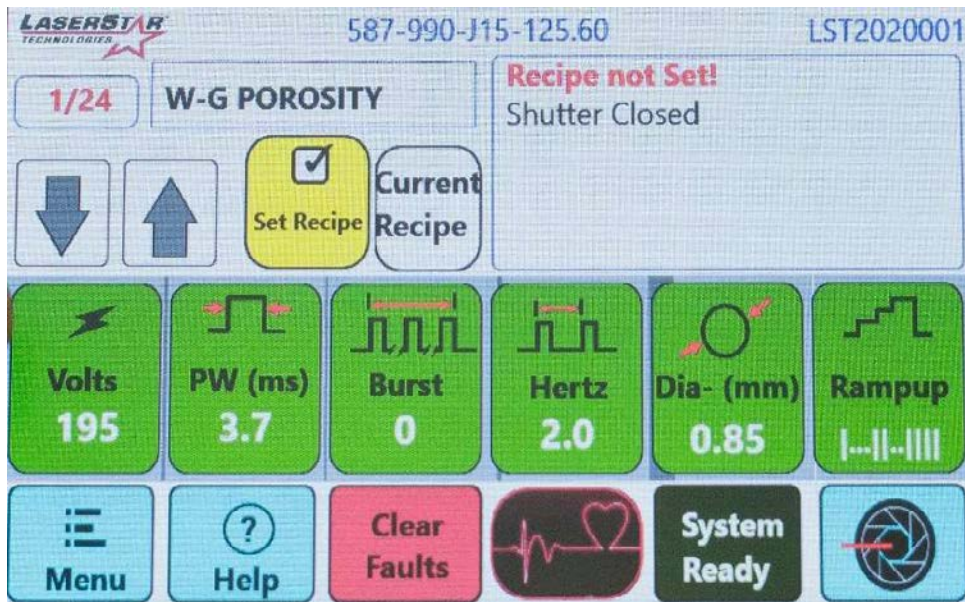

Figure 11
The display layout is shown in **figure 11** below. The first row shows recipe location, description of the recipe and messages; the second row displays operational / mode choices, Arrow Keys, Set Recipe, and current Recipe. The third row Green buttons display weld parameters-Voltage (V), Pulse Length (ms), Pulse Rate (Hz), Burst Mode or Pulse Suppression (optional / model specific), Beam Diameter, and Shape. The fourth row displays Laser Shutter status, System Ready, heartbeat indicator, Clear faults, help and Menu. **(Note: When the heartbeat button indicator is beating, the welder is ready to weld. The Safety Shutter button is used to open and close the safety shutter and displays the status.)**